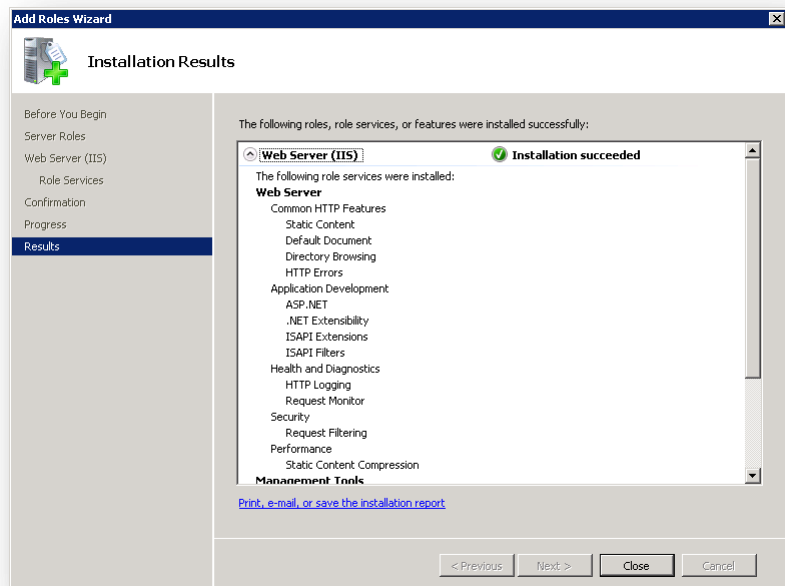

Figure 7 – Add Roles Wizard (Installation Results)
11. If Internet Information Services (IIS) is installed successfully, click **Close**. See Figure 7.